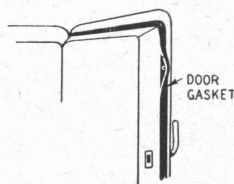

Fig. 44
- b. Doors may need a new rubber gasket. Fig. 44. The old gasket can usually be taken off by removing the screws around the door edges.